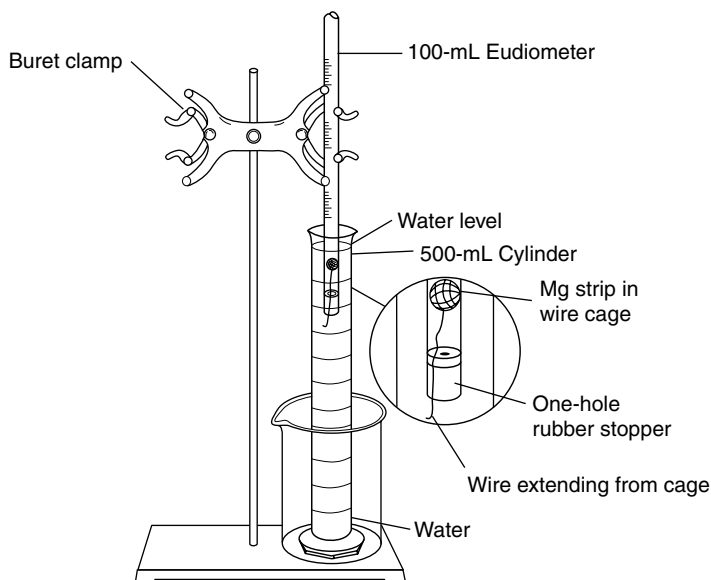

Figure 16.1
in your cage, or pieces of magnesium will escape during the reaction. Leave a 10- to 12-cm piece of wire extending from the cage (see Figure 16.1).
- F. Place your finger over the hole of the stopper, invert the eudiometer, and quickly lower it into the water-filled cylinder. When the stopper is beneath the surface of the water, remove your finger. Move the eudiometer and cylinder to a clamp mounted on a ring stand, as shown in Figure 16.1; a buret clamp is ideal for this purpose.